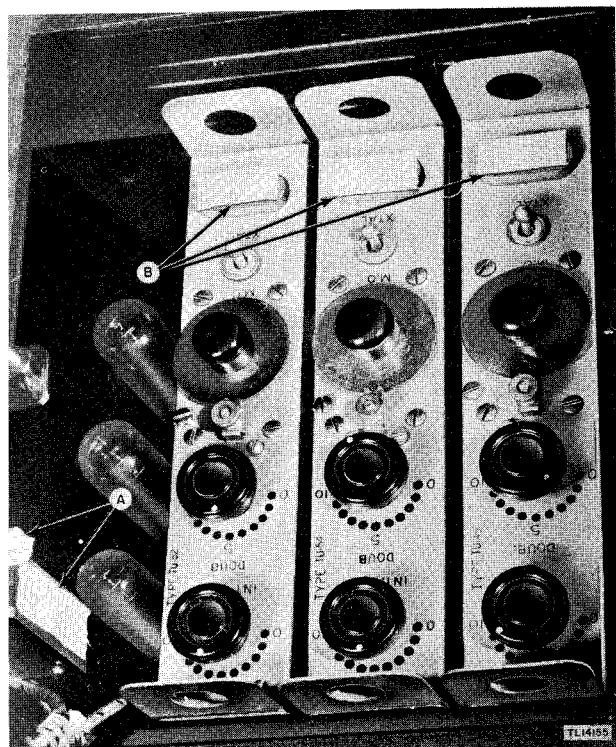

Figure 36. Radio Transmitter BC-610-E—top interior view of exciter stages, showing method of masking.
(21) Interlock switch, item A, figure 36.
(22) Tuning unit crystal sockets, item E, figure 36.
*d. DRYING.* (1) Place the transmitter in a baking oven, and bake approximately 2 to 3 hours at 160° F.